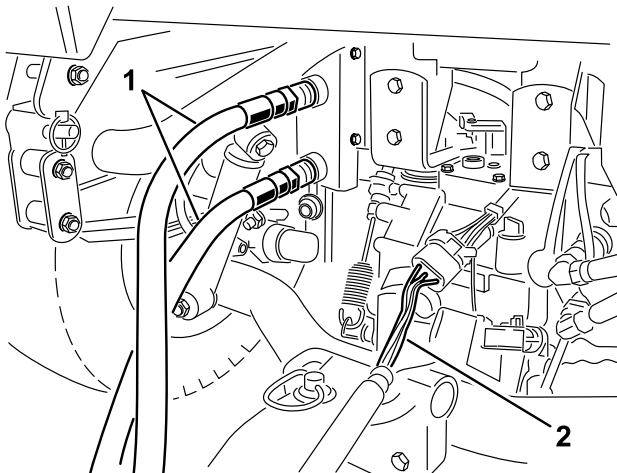

Figure 14
1. Connect the hydraulic hoses from the machine to the quick couplers on the towing vehicle (Figure 14).
1. Connect the harness from the machine to the power harness on the towing vehicle (Figure 14).